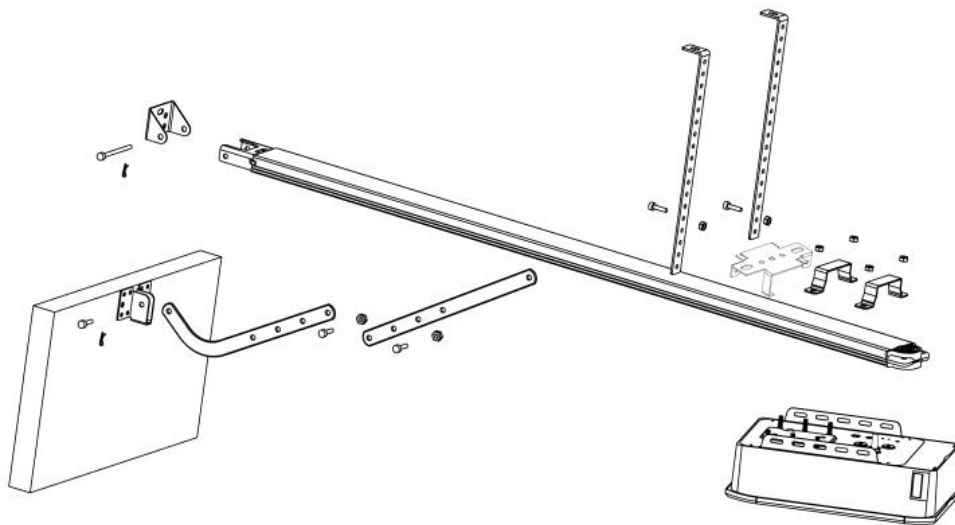
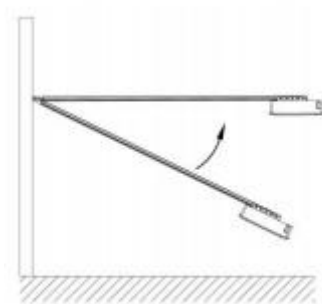

Figure 3 1.3)
Figure 4
STEP2 (Fig.3)
STEP3 (Fig.3, Fig.4)
STEP4 (Fig.3, Fig.5)